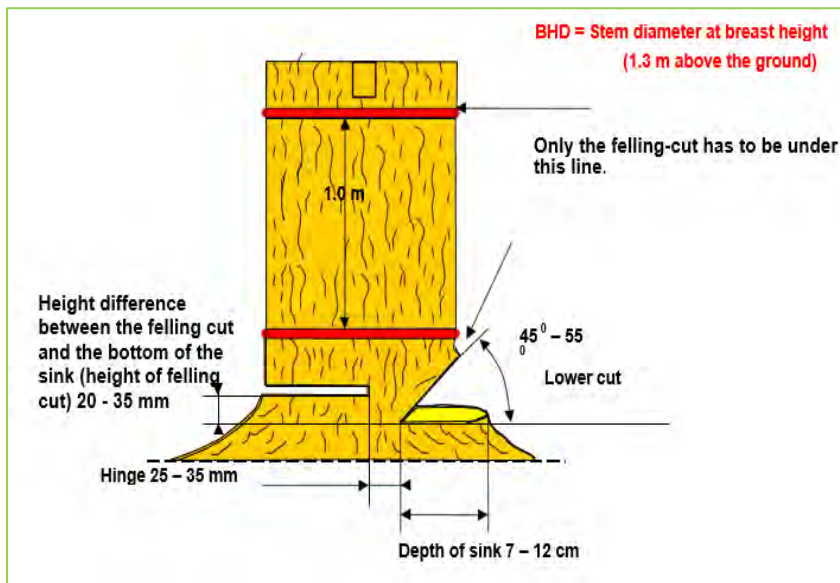

Figure 9: Measurements and markings for option 1 real tree
- Marking a line on the trunk above which no horizontal cut may be made (see figure 9);